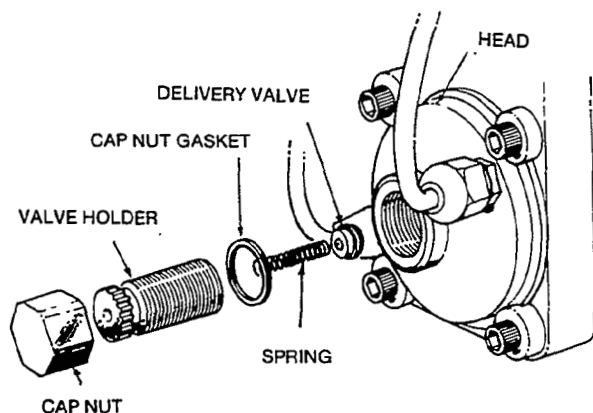

FIGURE 49. LATE MODEL DELIVERY VALVE ASSEMBLY
1. Install No. 12 timing button in new injection pump. Remove delivery valve cap nut and holder, take out spring and replace valve holder and cap nut (Figure 49 and 50).
10. On late model (Figure 49) injection pumps, remove delivery valve capnut and holder to install spring. Before installing delivery valve spring, push delivery valve back onto its seat using your little finger. Install spring and valve holder.